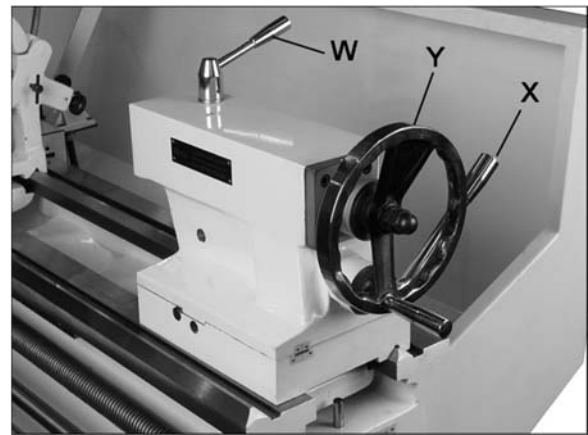

Figure 22 – Tailstock controls
17. **Tailstock Quill Clamping Lever (W, Figure 22):** Rotate clockwise to lock the sleeve. Rotate counterclockwise to unlock.
18. **Tailstock Clamping Lever (X, Figure 22):** Lift up to lock. Push down to unlock.
19. **Tailstock Quill Traverse Handwheel (Y, Figure 22):** Rotate clockwise to advance the quill and counterclockwise to retract it. Fully retract it to eject a center or drill chuck.